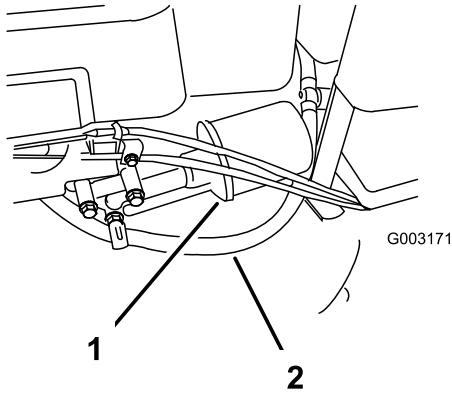

Figure 28
Replace the oil filter (Figure 28) after every 100 operating hours or yearly, whichever comes first.
3. Disconnect the fuel line (Figure 28) by loosening the tube clamp at the carburetor.